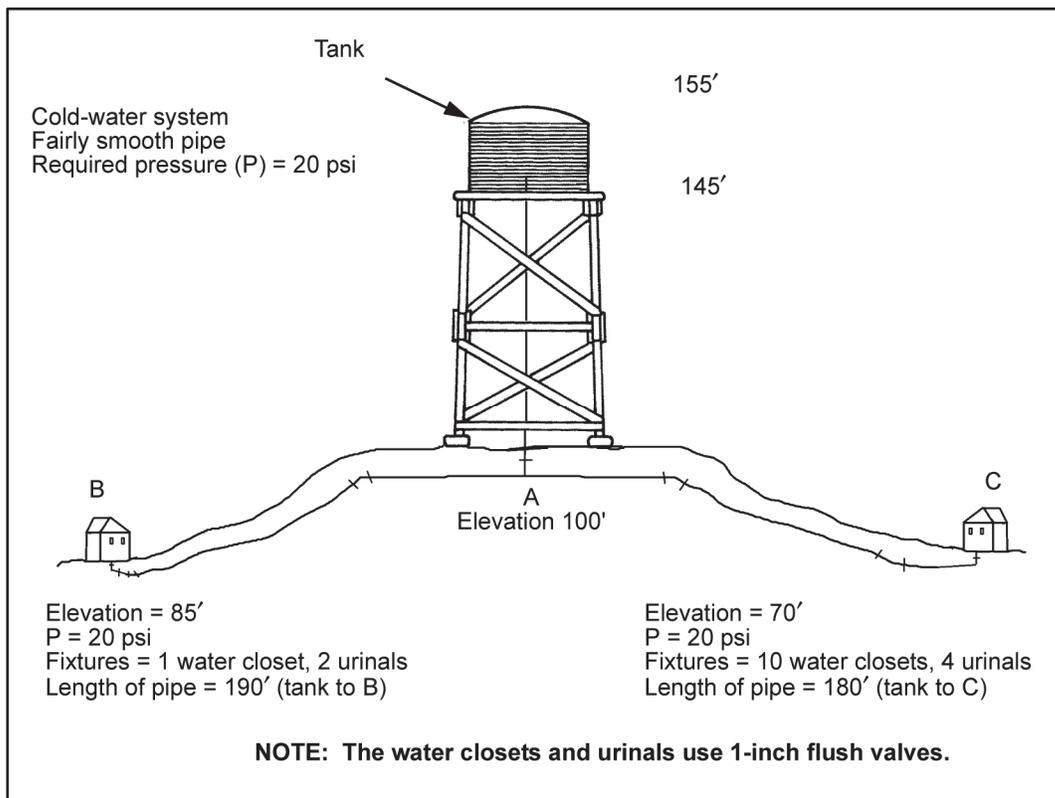

Figure E-5. Water line, design 2
Step 3. Determine the pipe length (figure E-5).
Step 3. Determine the length of the pipe (figure E-5).
Step 3. Determine the length of the pipe (figure E-5, page E-8).